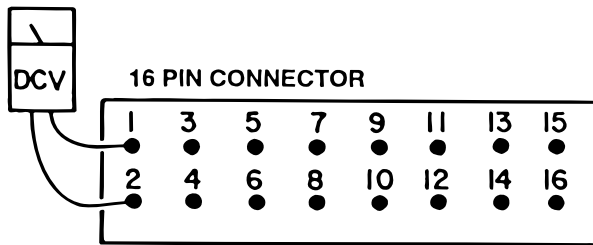

Figure 5-6. Back View Connector E
3. Use a DC voltage meter 10V scale, or equivalent, and measure the following connector pins located in connector E. See figure 5-6.